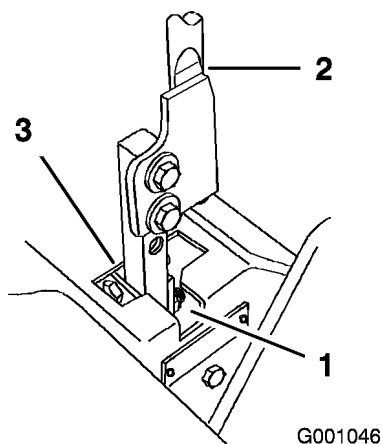

Figure 53
5. Move the lever to the neutral position but not locked (Figure 53).
6. Pull the lever back until the clevis pin (on arm below pivot shaft) contacts the end of the slot (just beginning to put pressure on the spring) (Figure 53).
7. Check where the control lever is relative to notch in console (Figure 53). It should be